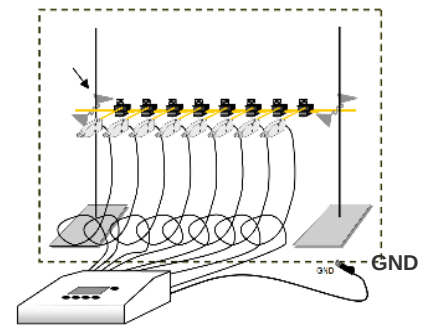

Figure 6
- The probes have been shipped with 4 on each of the two 38 cm brass mounting rods. Mount either two separate rods or screw them together. To screw the two together, loosen the swivel clamps of one rod while lying this on a table – so that you can turn the rod without turning the probes – and screw this rod into the threaded end of the other rod. Then fasten the 4 clamps again. Fix the rod(s) in the Faraday cage – for example - between two ordinary (chemical) stands (Fig. 6) using standard clamps (not provided by EPG systems).